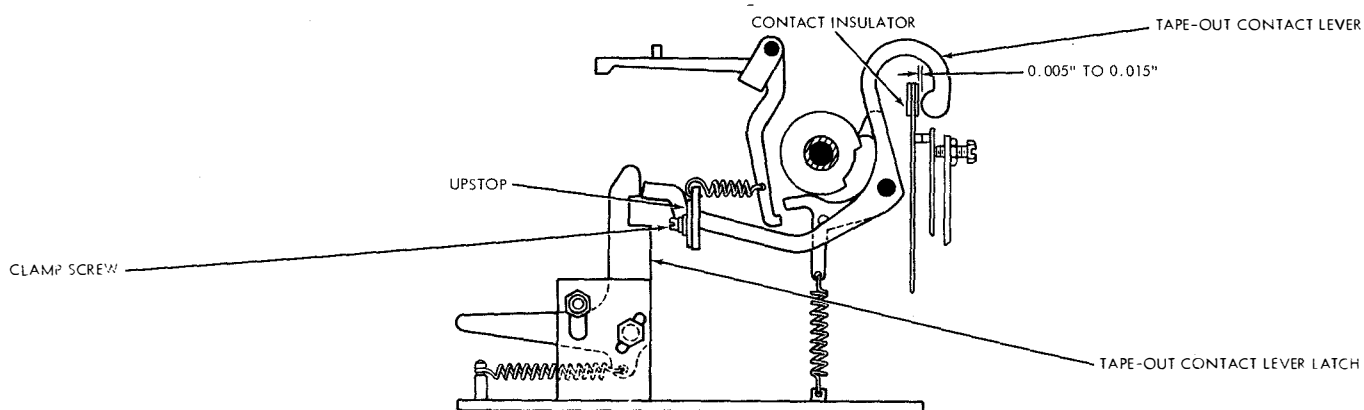

Figure 7-108. Tape-out Contact Lever Upstop
(47) DOOR STOP PLATE.—The flat surface of the door stop plates mounted on the front posts should be parallel with the front edge of the base plate. To adjust, loosen the post mounting screws and position by eye.
(48) TAPE-OUT CONTACT LEVER UPSTOP. (See figure 7-108.)—With the cam sleeve in its stop position and the tape-out contact lever unlatched, there should be 0.005-inch to 0.015-inch clearance between the tape-out contact lever and the contact insulator. To adjust, position the upstop by loosening the clamp